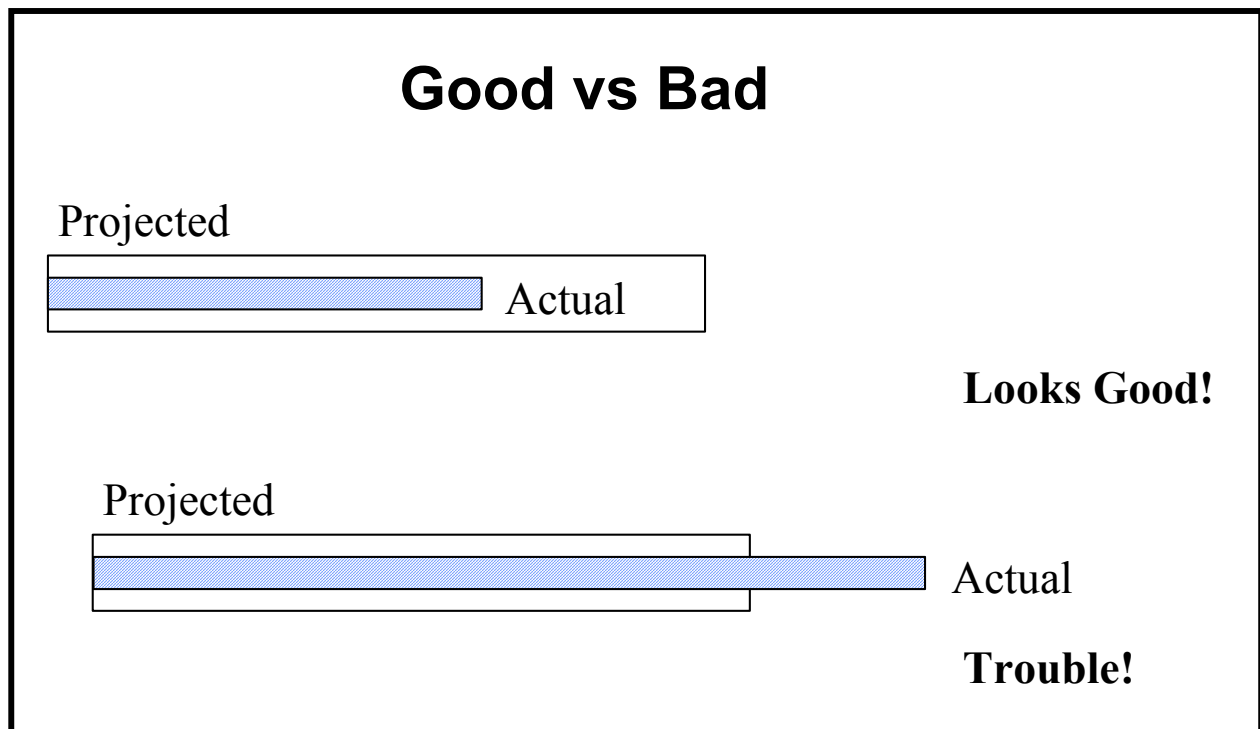

Figure 65. Evaluating Actual versus Projected Job Processing Time
- Bars in the **View Region** of the **TimeScape** GUI indicate projected and actual time involved in job processing (refer to Figure 65.):